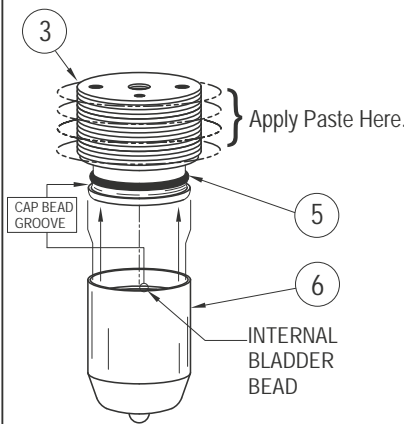

FIGURE 6
1. Make sure all components are clean and free of corrosion. Remove and discard old cap sealing O-ring ④ and body O-ring ⑦.
2. **Dampeners with elastomeric bladders:** Install bladder onto cap making sure the internal bladder bead is in the cap bead groove and the top of the bladder is approximately 1/8" (3 mm) from the cap lip (FIGURE 6).
4. If bubbles occur around dampener cap threads, remove all dampener pressure, remove dampener cap and make sure the bladder/bellows is properly seated on the cap and that both the cap and internal body O-rings are properly installed and not damaged (FIGURES 6, 7 & 9).